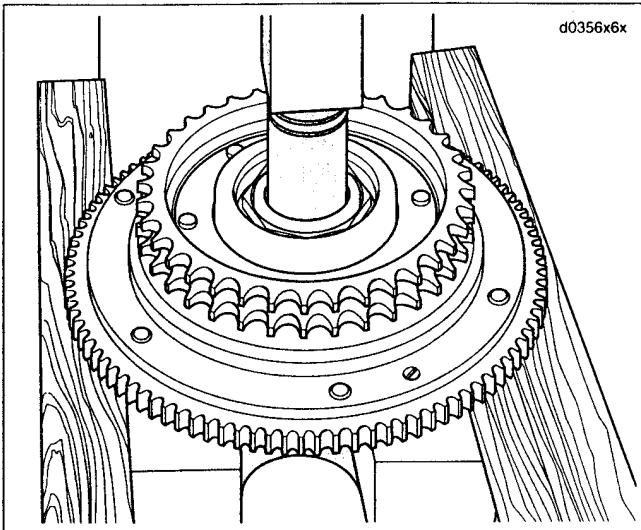

Figure 6-20. Pressing Clutch Hub From Bearing
3. See Figure 6-20. Supporting clutch shell in same orientation, use arbor press and a suitable press plug to press hub from bearing in clutch shell.